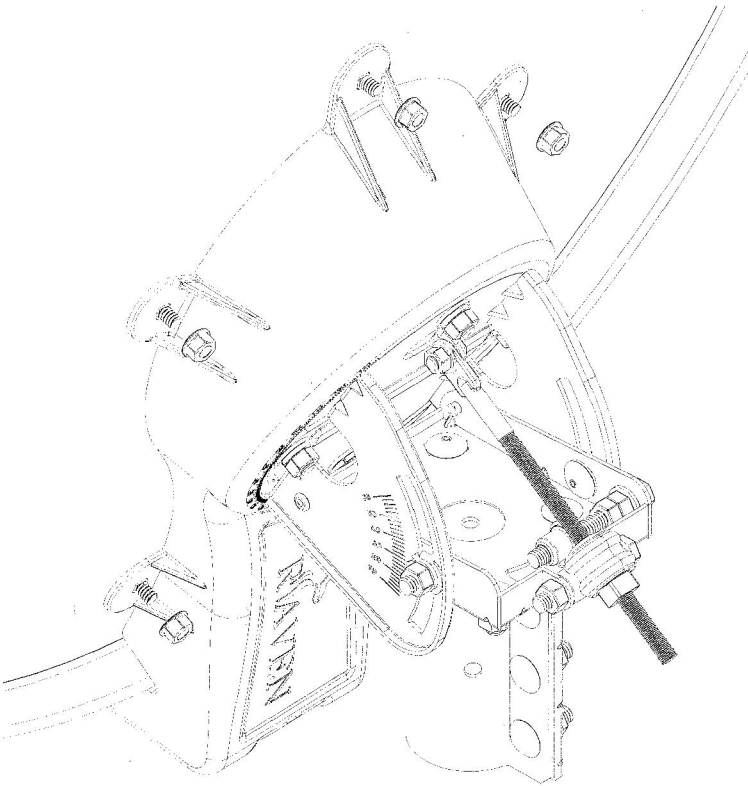

Figure 8
Step 5: Fasten the Elliptical Dish to Antenna Back Bracket using five 1/4" x 1/2" UNC Carriage Bolts inserted through the front of the Dish and through the five tabs located on the rim of the Antenna Back Bracket. Secure the Dish to the Antenna Back Bracket using a 1/4" UNC Serrated Flange Nut on each Carriage Bolt and tighten to 12Nm (**fig 8**).